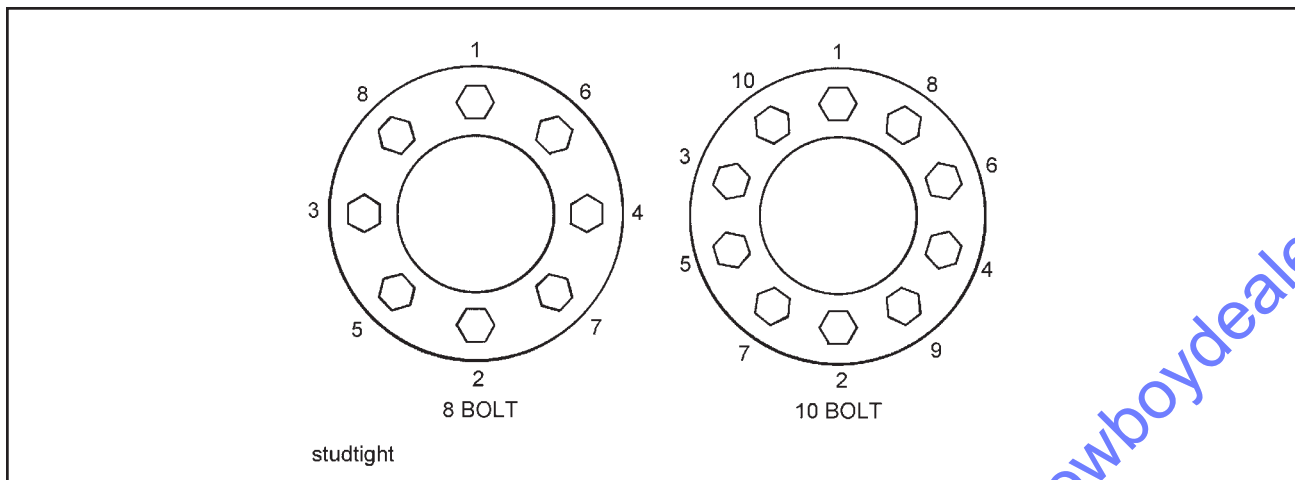

Figure 4-18 Stud Tightening Sequence
- c. Install the inner capnuts on the studs and tighten to fifty foot-pounds using the sequence illustrated in **Figure 4-18**. Make certain that the left-handed threads are installed on the driver side of the vehicle and the right-handed threads are installed on the curbside of the vehicle.
- d. Tighten the inner capnuts to full torque of 450 to 500 foot-pounds using the sequence shown in **Figure 4-18**.
- f. Install the outer capnuts and tighten to 50 foot-pounds using the sequence in **Figure 4-18**. Then tighten to full torque of 450 to 500 foot-pounds using the same sequence.